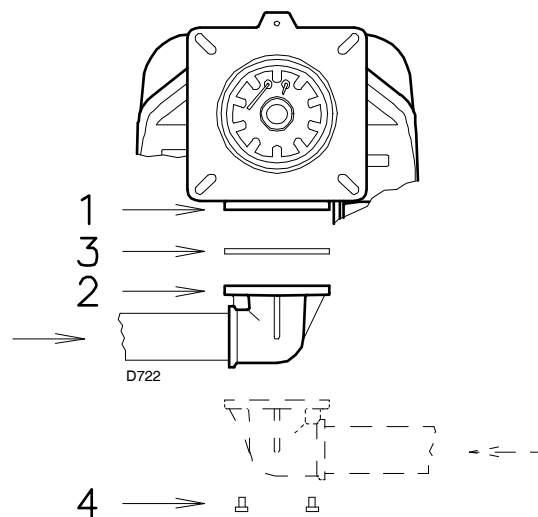

Fig. 19
- The gas train must be connected to the gas attachment 1) (Fig. 19) with the flange 2), the gasket 3) and the screws 4) supplied with the burner.